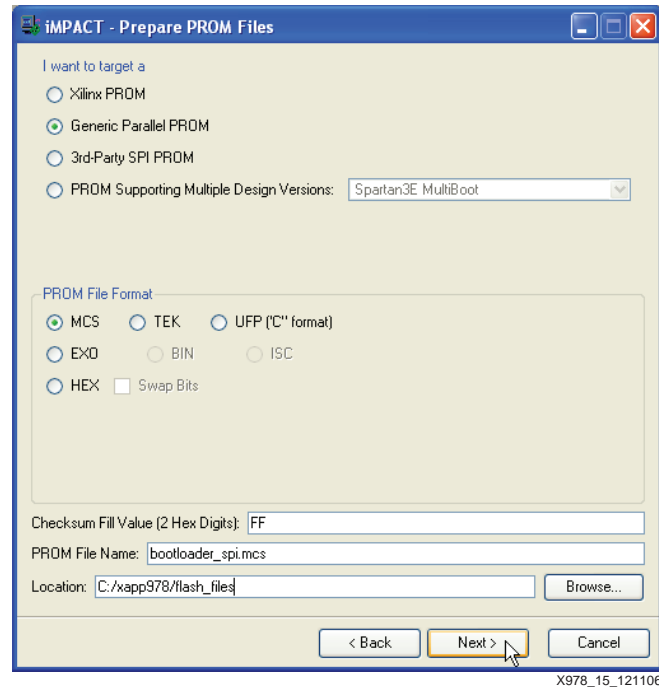

Figure 15: Prepare PROM Files Dialog Box
- In the Prepare PROM Files dialog box, shown in Figure 15, select the target to be a **Generic Parallel PROM**. Ensure that the file format is selected to be **MCS**. Enter an appropriate PROM file name and location. Click **Next**.